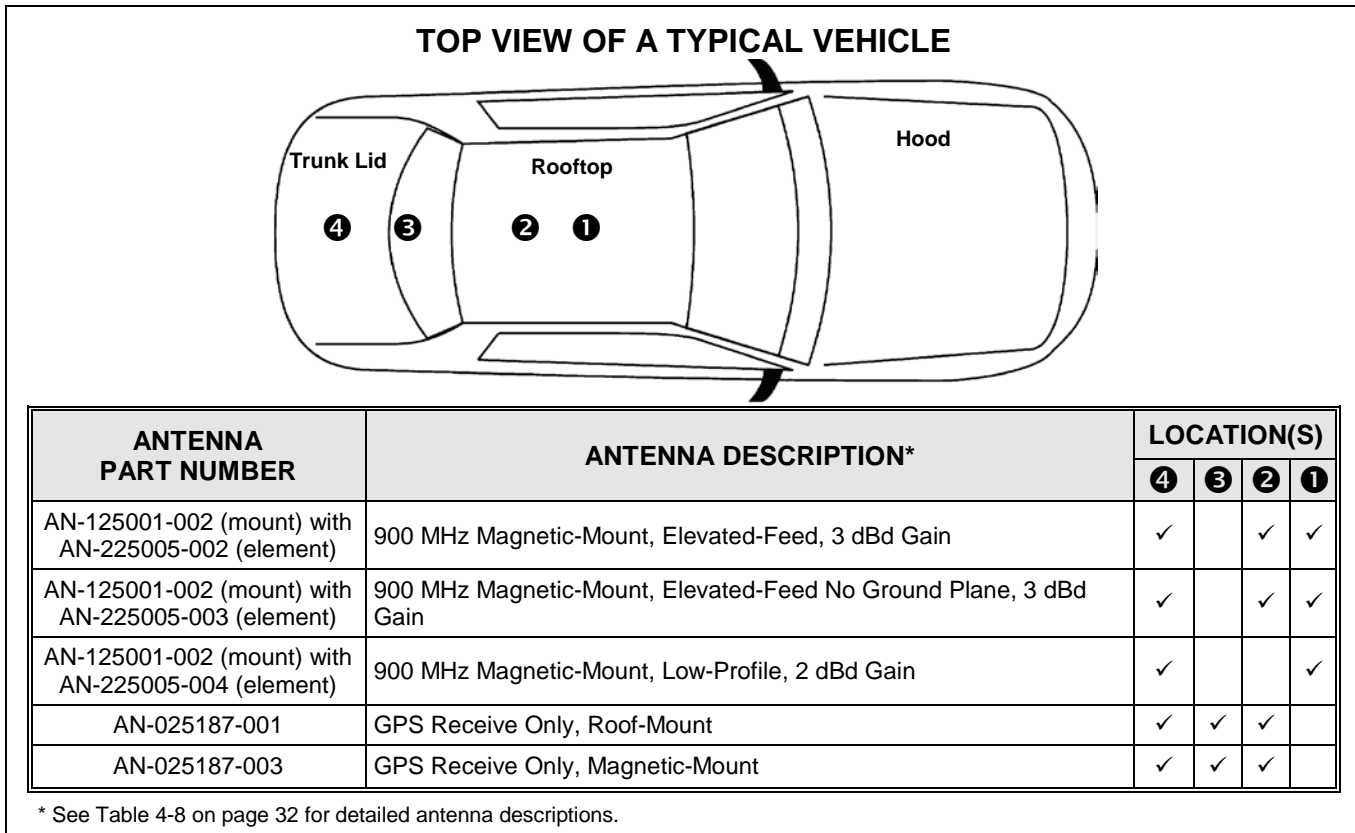

Figure 6-2: Recommended Antenna Mounting Locations for a 900 MHz M5300 Mobile Radio
At this time, review all information presented in the REGULATORY AND SAFETY INFORMATION section of this manual (page 7). A transmitting antenna must be installed in accordance with the guidelines presented in the REGULATORY AND SAFETY INFORMATION section, and in this section. In order to reduce human exposure to radio frequency (RF) electromagnetic energy during transmit mode, use Figure 6-1 (for an 800 MHz radio) or Figure 6-2 (for a 900 MHz radio) as a guide for determining the best possible mounting configuration/location. Also refer to the recommended minimum lateral safe distances from a transmitting antenna listed in Table 1-1 (on page 9) for 800 MHz M5300 mobile radios, and in Table 1-2 (on page 12) for 900 MHz M5300 mobile radios.
Antennas must be mounted in one of four (4) possible locations on the vehicle. Figure 6-1 (for an 800 MHz radio) and Figure 6-2 (for a 900 MHz radio) show the recommended locations and antenna part numbers. Also, see Table 4-8 for additional information. Always follow the antenna manufacturer's instructions when mounting an antenna.
The center of the vehicle's roof is the best location for a rooftop-mount antenna (location ❶ in Figure 6-1 and Figure 6-2). For optimal performance, the mounting area under the antenna must be a flat with a minimum radius of six (6) inches of metal ground plane. It must be located directly in the center of the roof to minimize human exposure to RF electromagnetic energy. Other obstructions such as a light bar or another antenna may prevent the antenna from being mounted in the direct center of the roof. In this case, the antenna should be mounted a minimum of one foot away from and behind the obstruction but in the middle of the roof with respect to the left and right sides of the vehicle (location ❷ in Figure 6-1 and Figure 6-2).
Certain vehicles do not allow for the antenna to be placed in the center or center-rear of the roof. In this case, the next best location for the antenna is in the direct center of the trunk lid (location ❹ in Figure 6-1 and Figure 6-2). In this case, an elevated-feed-point antenna is recommended. Although this type of antenna does not require a metal ground plane, it must be located directly in the center of the trunk lid to minimize human exposure to RF electromagnetic energy.
If the M5300 mobile radio does not use a GPS combination-type antenna and it is equipped with a GPS receiver, a stand-alone GPS receive antenna must be separately located and mounted. The vehicle's rear deck lid (location ❸ in Figure 6-1 and Figure 6-2) is the recommended mounting location for this case. This locates the GPS antenna inside the vehicle.
As presented in the previous section, various antenna mounting locations exist. Optimal performance is achieved via a rooftop antenna mounted in the direct center of the motor vehicle’s roof. Table 4-8 which begins on page 32, along with Figure 6-1 (for 800 MHz) and Figure 6-2 (for 900 MHz) lists available antennas.